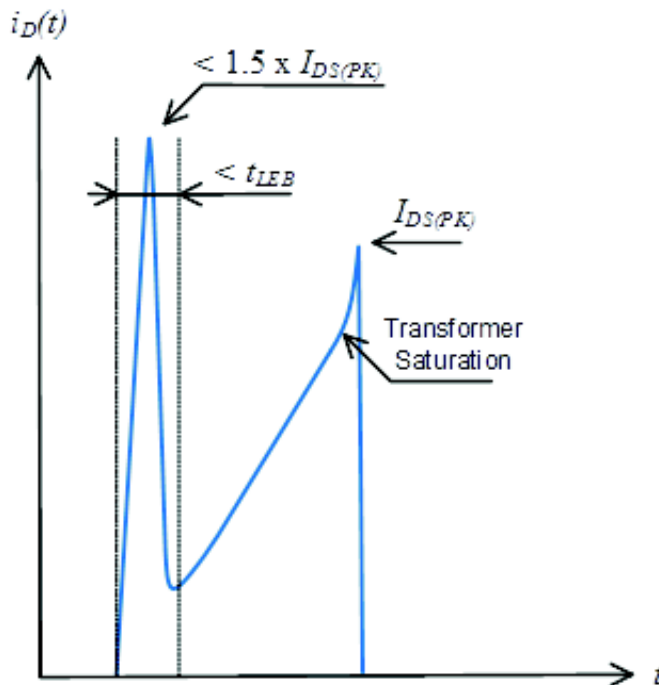

Figure 4. Spike Limits
3. Maximum drain current IDS(PK) is obtained when the transformer saturates. It should not be mixed with short pulses that can be seen at turn on. Figure 4 below provides spike limits the device can tolerate.